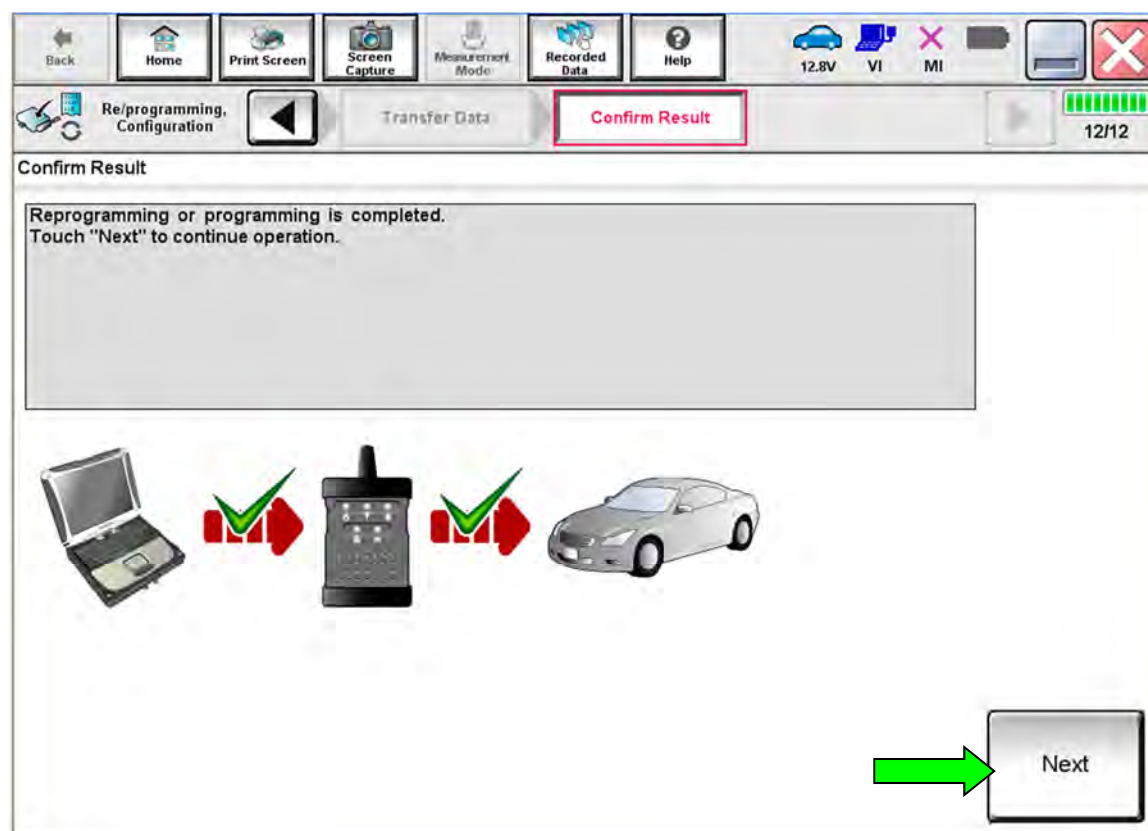

Figure 195
170. When the screen in Figure 195 displays, reprogramming is complete.
**NOTE:** If the screen in Figure 195 does not display (indicating that reprogramming did not complete), refer to the information on the next page.